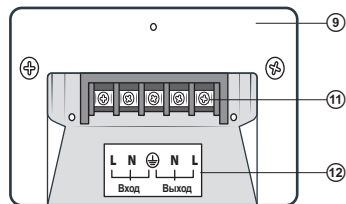

Fig. 4. Terminal box
• Voltage consumer-devices should be connected when the AVR is off. Open the terminal box ⑨ and with the help of relevant cables (not included) connect the appropriate load to the AVR terminals ⑩, after that connect the AVR to the 220 V household mains according to the diagram ⑫ in Fig. 4.